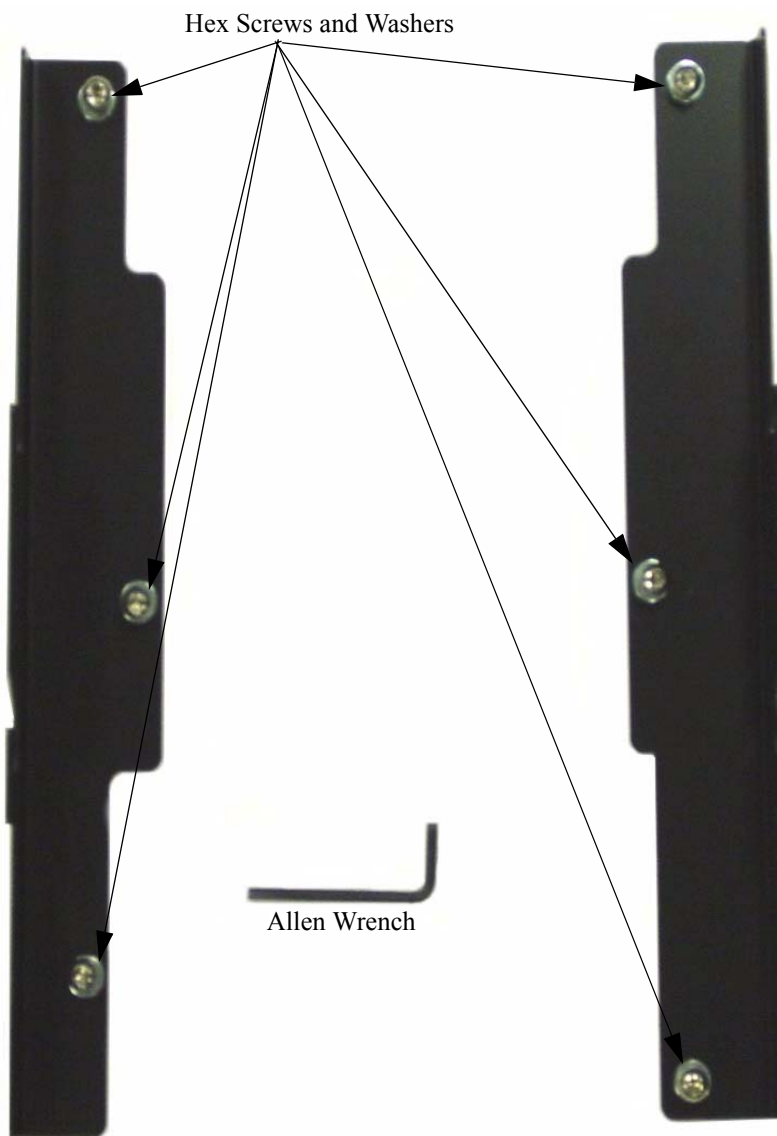

Figure 1. Bracket Installation
3. Insert, by hand, the six hex head bolts and washers provided (see Figure 1).